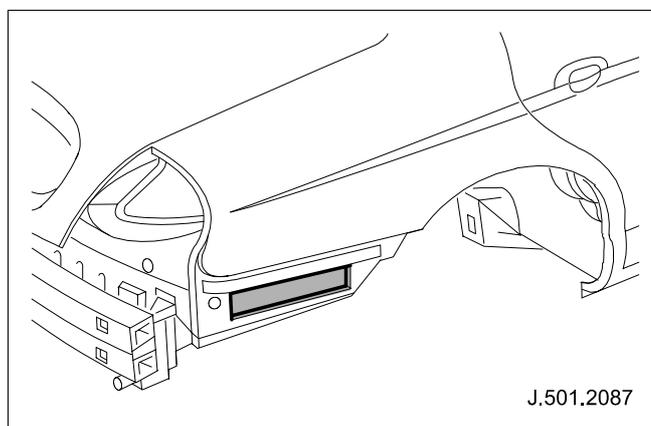

Fig. 27
- 6 Luggage compartment air ducts. (See Fig. 27)